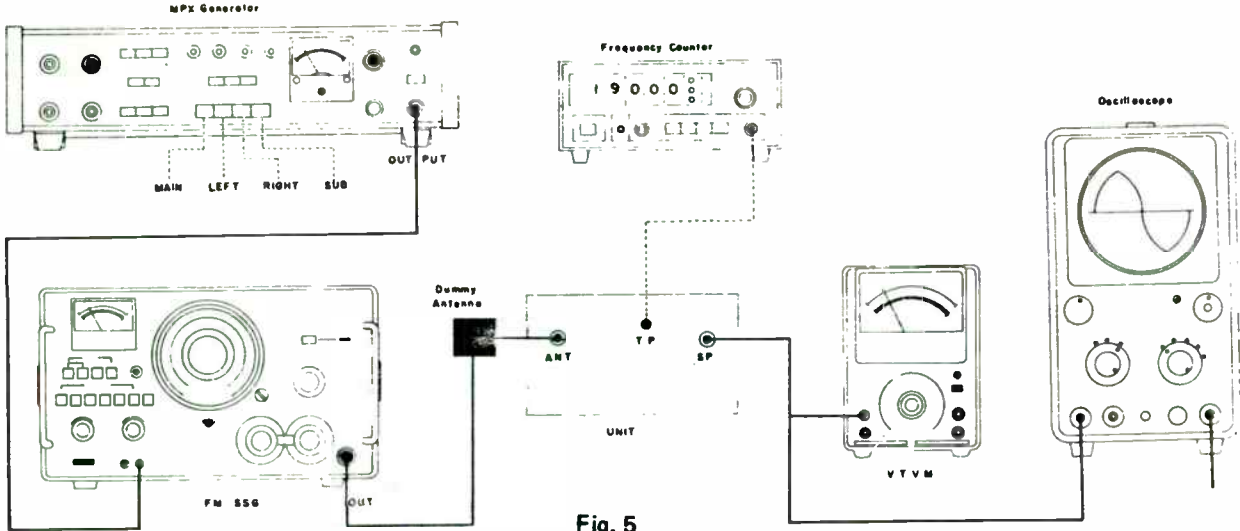

Fig. 5
- Connect test instruments as shown in Fig. 5.